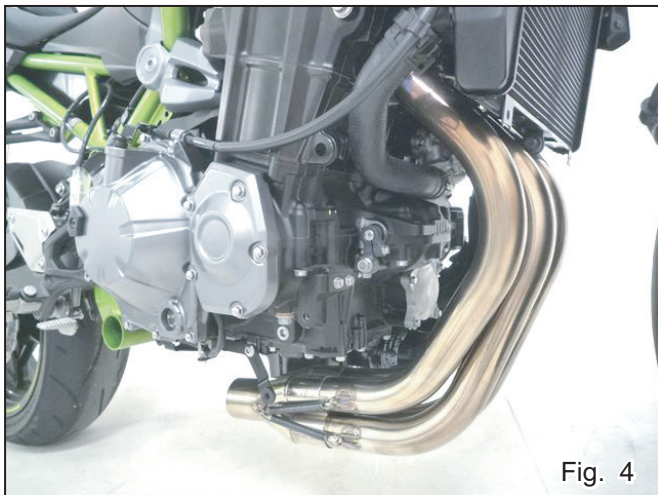

Fig. 4
- 6) Replace exhaust gaskets on all the exhaust ports with new ones and mount Exhaust Pipes assembly which is completed at Step 4 to exhaust ports and fix it with 8 of stock nut. Tighten nuts by hand only at this stage. (See Fig. 4 & 5 on next page)